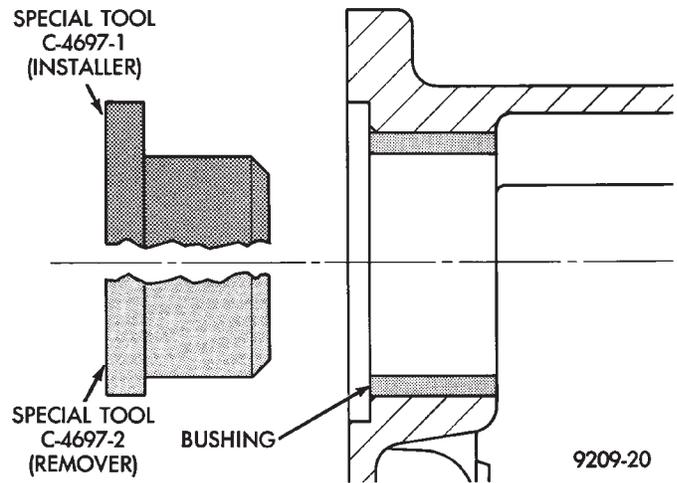
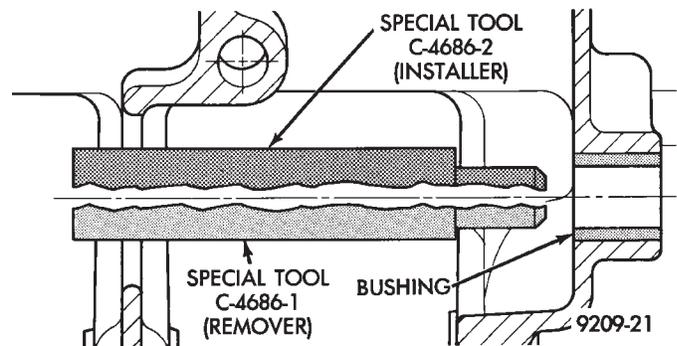

Fig. 26 Intermediate Shaft Bushing, Front
Fig. 27 Intermediate Shaft Bushing-Rear
- (1) Remove front bushing using Special Tool C-4697-2 with Special Tool Handle C-4171 (Fig.26).
- (2) Install front bushing using Special Tool C-4697-1 and Special Tool Handle C-4171 until tool is flush with block.
- (3) Remove rear bushing using Special Tool C-4686-2 and Special Tool Handle C-4171 (Fig. 27).
- (4) Install rear bushing using Special Tool C-4686-1 and Special Tool Handle C-4171 until tool is flush with block.